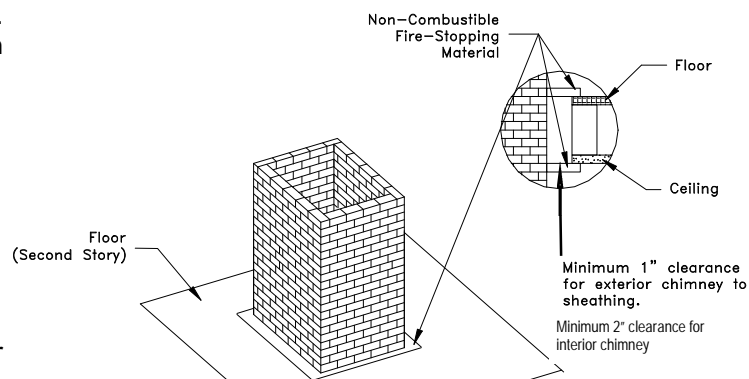

Fig. 10 Fire Stopping
3. A chimney inside the house must have at least 2 inches of clearance to the combustible structure. A chimney outside the house must have at least one-inch clearance to the combustible structure. Fire stops must be installed at the spaces where the chimney passes through floors and/or ceiling (Fig. 10).